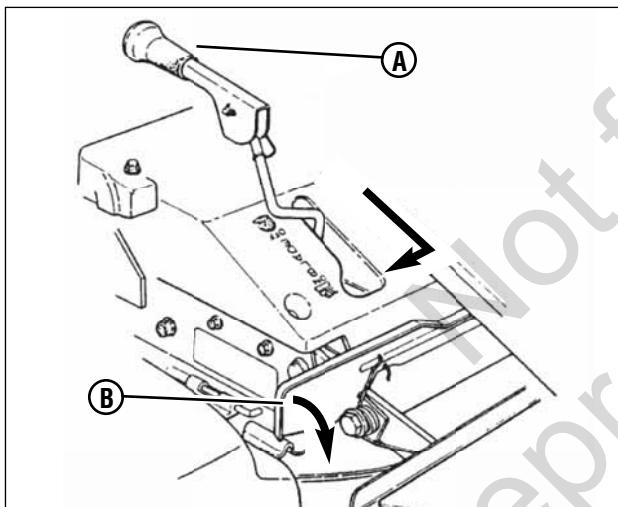

Figure 10: Engaging the mower blade
2. Move the blade lever (A, **Figure 10**) forward to the "ON" position, then depress the blade pedals (B) to hold the blade lever in the "ON" position.